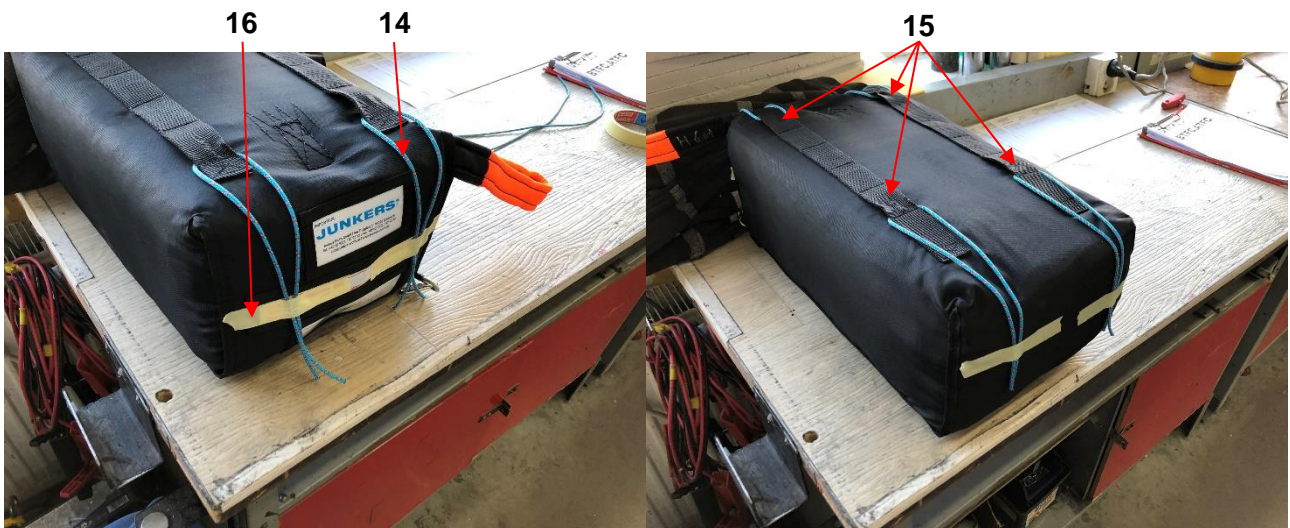
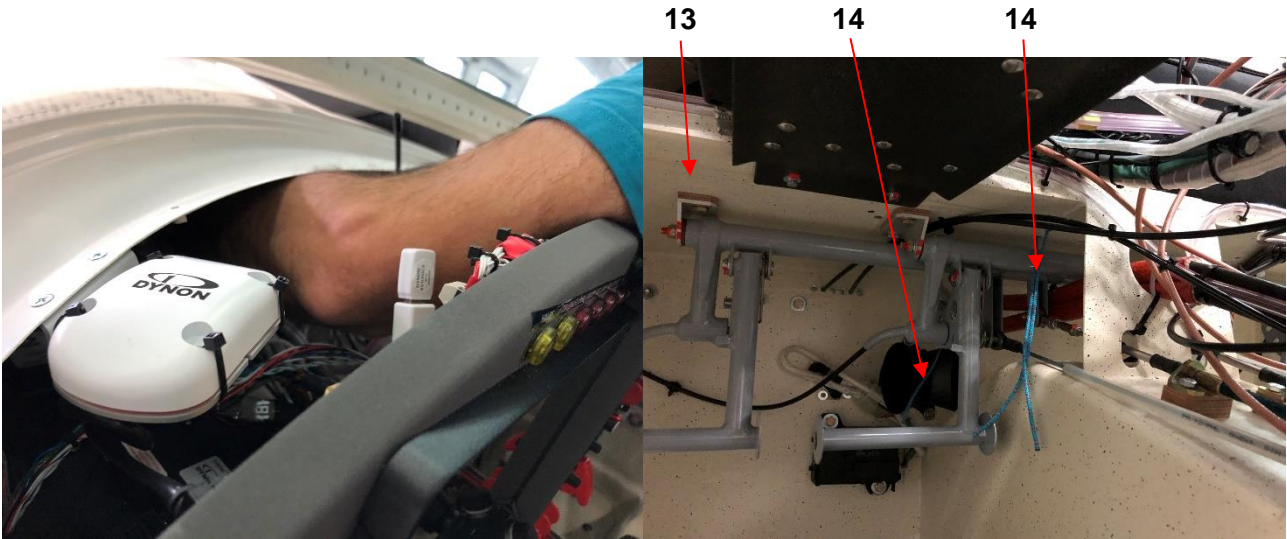
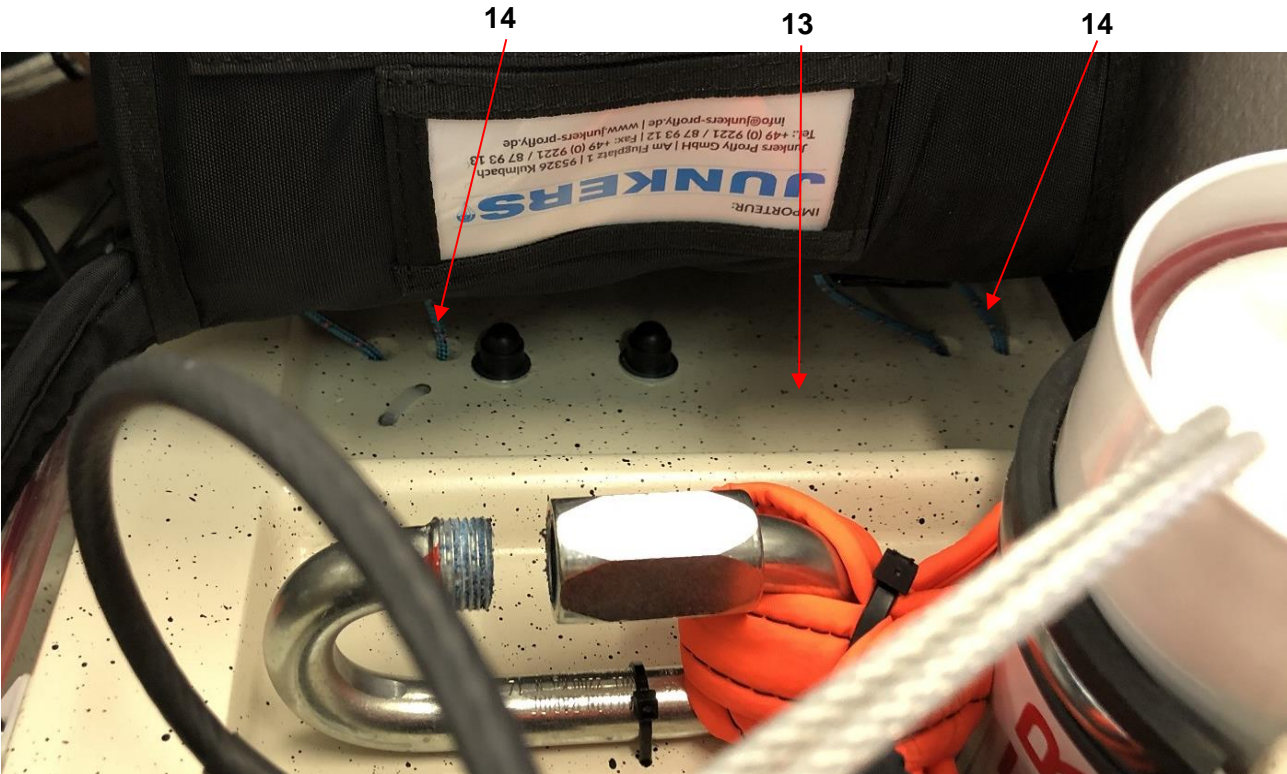

Fig. 9
Fig. 12
Fig. 13
14. Pull the 4 ropes (14; Fig. 9) through the attachment points of parachute fabric container (15).
18. Remove the paper tapes (16; Fig. 9) and pass the left ropes (14; Fig. 12) through the holes in the rescue system board (13).
19. Put the parachute fabric container into the rescue system compartment. Remove the paper tapes (16; Fig. 9) and pass the right ropes (14; Fig. 13) through the holes in the rescue system board (13).